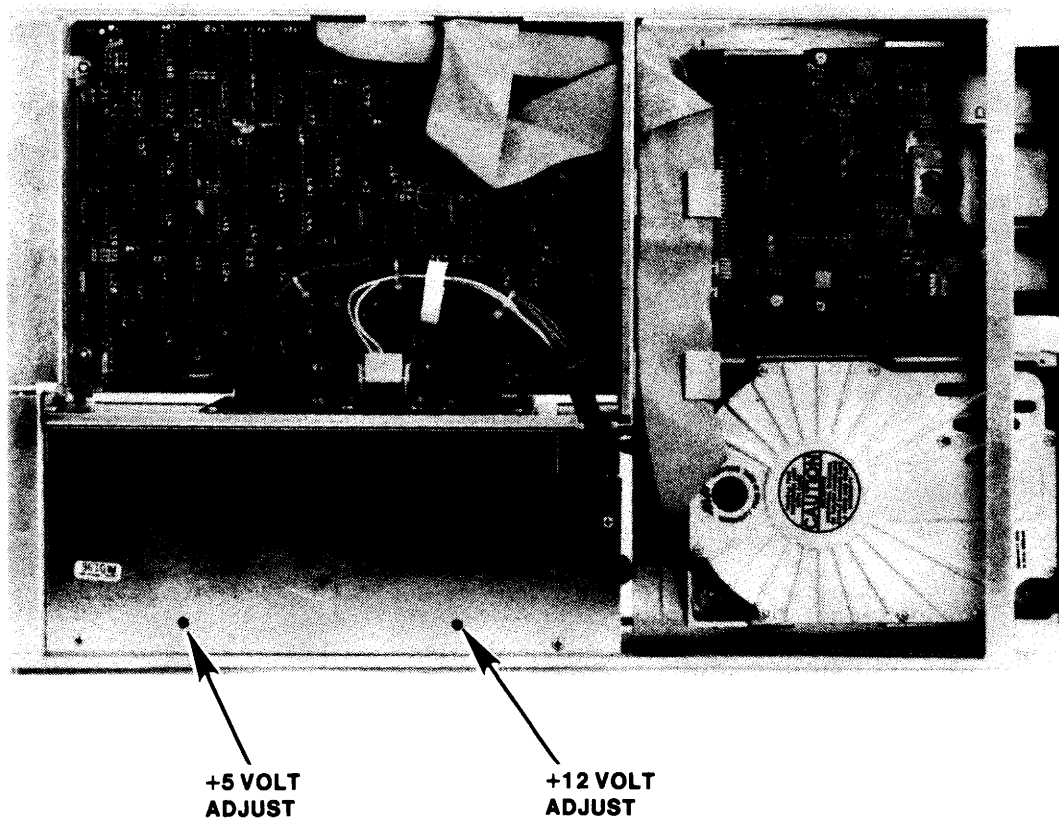

Figure 5-2. Expanded Chassis Switching Power Supply Adjustment Locations
- () Place the red lead (positive) on the Motherboard connector P1 pin 3. Place the black lead (negative) on the Motherboard connector P3 pin 1. Read the voltage level displayed, it should be +5 Volts \pm .25. If the voltage is out of adjustment, using a non-metalic screwdriver adjust the +5 adjustment to bring it into tolerance. See figure 5-2 for adjustment location.
- () Place the Red lead (positive) on the Motherboard connector P1 pin 2. Place the black lead (negative) on the Motherboard connector P3 pin 1. Read the voltage level displayed, it should be +12 Volts \pm .6V. If the voltage is out of adjustment, using a non-metalic screwdriver adjust the +12 adjustment to bring it into tolerance. See figure 5-2 for adjustment location.